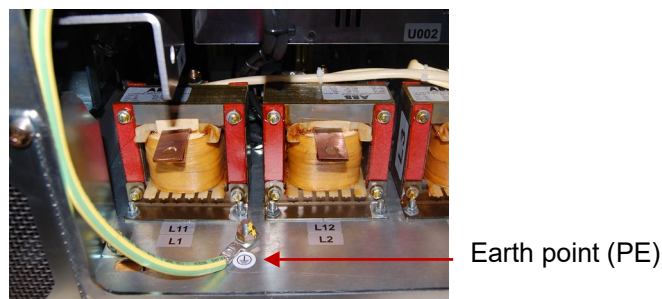

Figure 25: Identification of the earth point in the PQFS hardware
Each PQFS plate has one marked earth point (PE). The earth point is situated at the bottom right side of the filter plate (Figure 25).